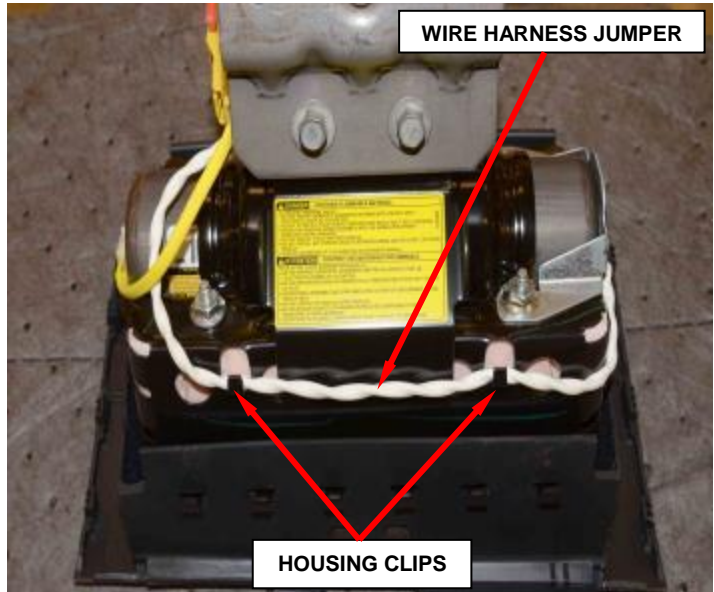

Figure 105 – Passenger Airbag Assembly
- b. Disengage the wire harness jumper from the housing clips in two places (Figure 105).